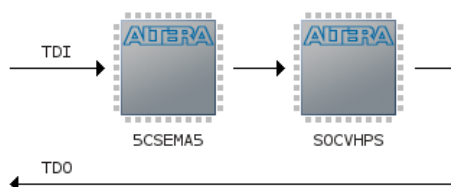

Figure 8-17. JTAG Scan Chain
You should now see 2 devices on the JTAG scan chain, as shown in Figure 8-17.
39. Right-click on the “5CSEMA5” device shown in Figure 8-17 and choose “Edit > Change File”. Then, select “DE1_SoC_demo/hw/quartus/output_files/DE1_SoC_demo.sof” through the file browser.